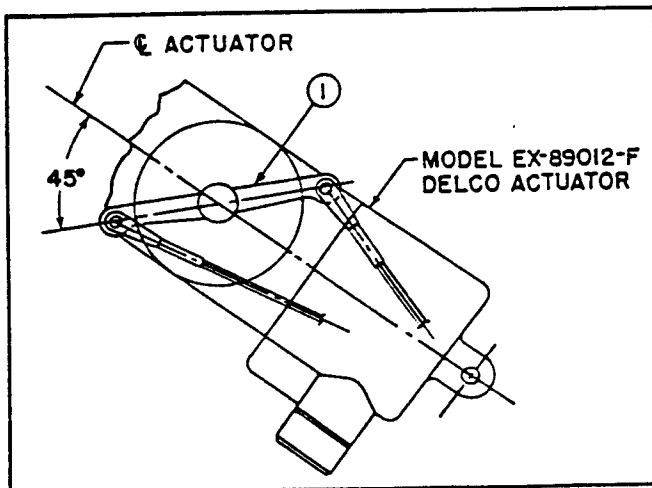

Figure 45. Rigging Nose Gear Normal and Emergency Control Cables
f. Position the arm (figure 45, reference 1) on the forward-door Delco actuator.